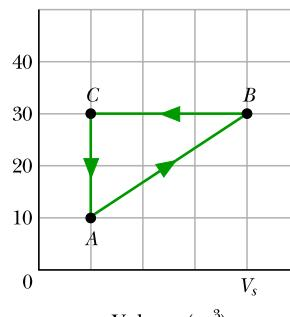

Figure 18.16 Problem 45.
**45 E CALC SSM** A gas within a closed chamber undergoes the cycle shown in the  $p$ -V diagram of Fig. 18.16. The horizontal scale is set by  $V_s = 4.0\text{ m}^3$ . Calculate the net energy added to the system as heat during one complete cycle.